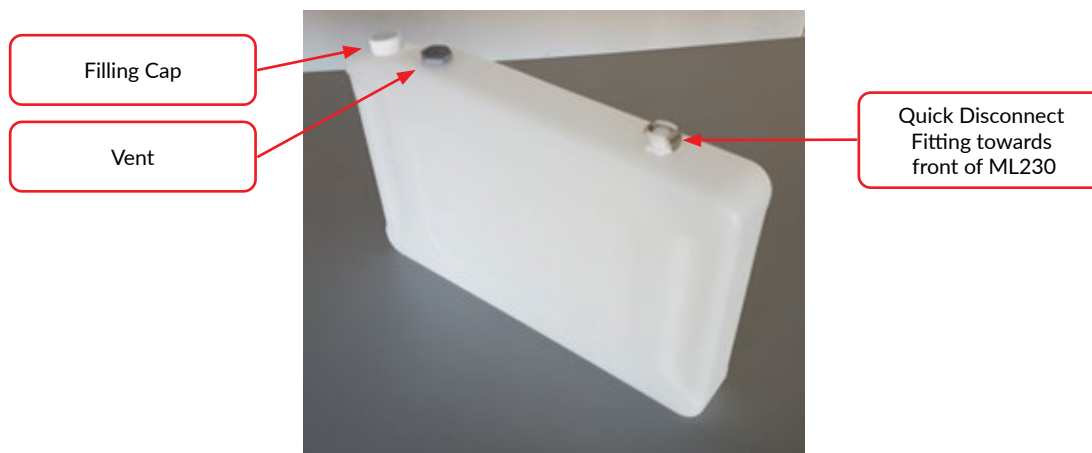

Figure 2.4 Water Control System Bottle
- Press the two Quick Disconnect fittings into the Waste and Supply bottles until they click into place. See **Figure 2.4**.